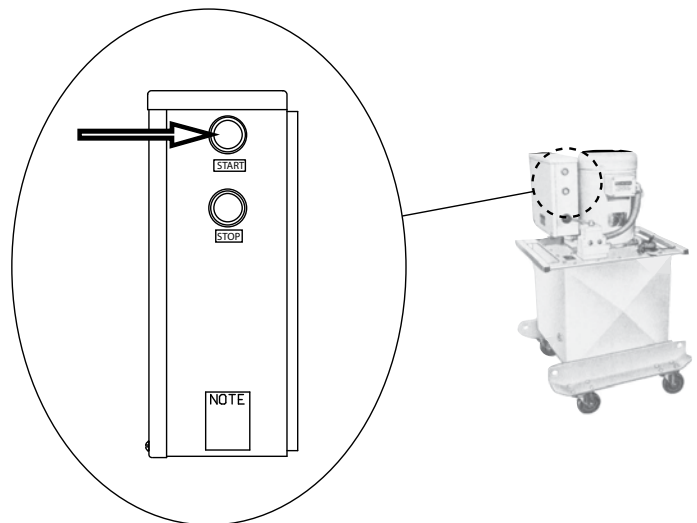

Figure 6. Electric Motor Control Switches
- B. See Figure 6. Push the START switch.